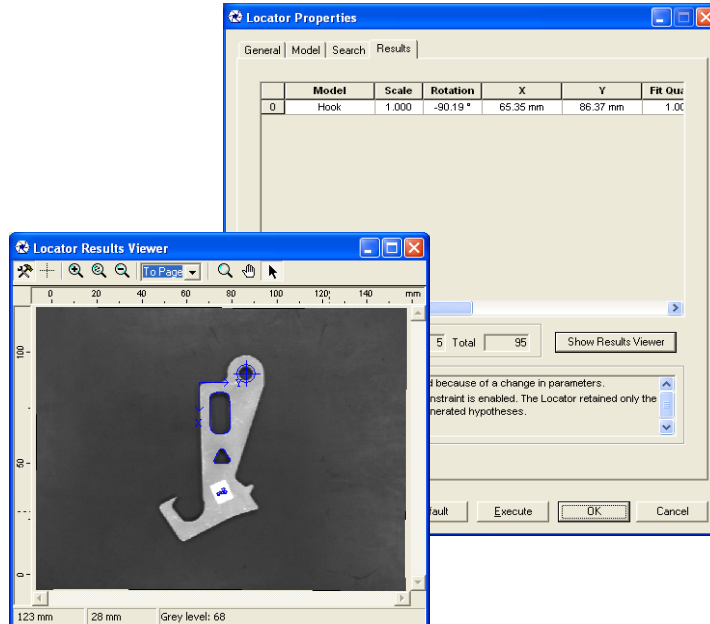

Figure 95 Results Viewer and Results Panel of the Locator Tool
4. Click **Show Results Viewer** to view the located instance superimposed on the Image, as shown in Figure 95.